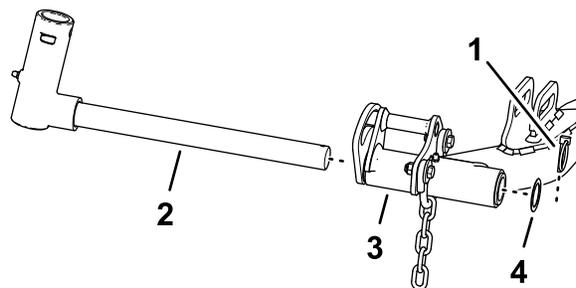

Figure 19
1. Remove the lynch pin and washer securing the to the pivot yoke to the lift arm, and slide the shaft out of the lift arm (Figure 19).